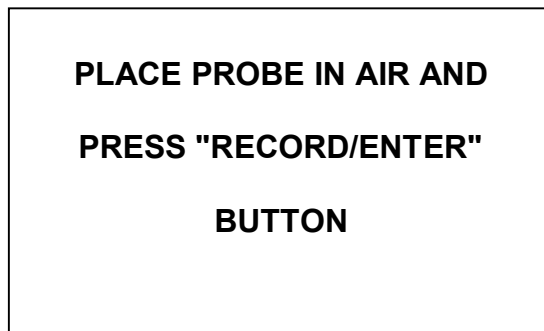

Fig 2.2
- 2 Move the marker to **AUTOMATIC** command and depress the key . The display shown in Fig. 2.2 shall come up.